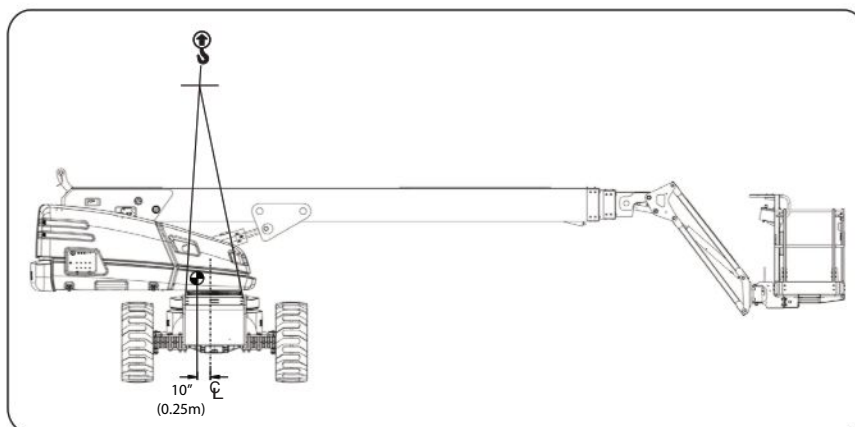
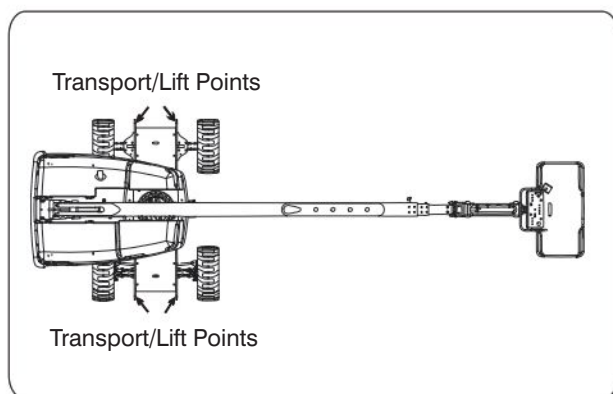
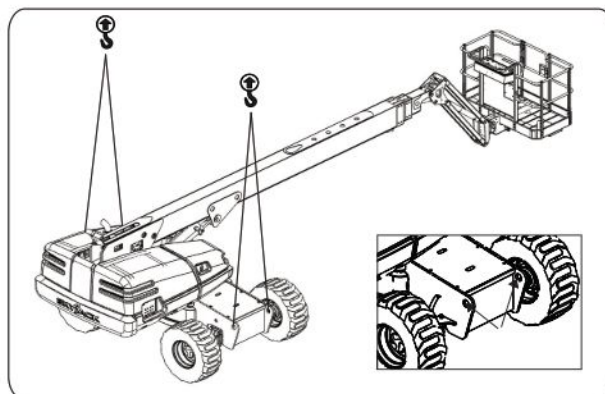

Figure 3-8. Center of Gravity
Figure 3-9. Overhead View Lifting Points
Figure 3-10. Lifting Points
1. Rotate the boom and position the MEWP as shown in Figure 3-8 and Figure 3-9.
When lifting the MEWP, lifting devices must be attached to designated lift points only (refer to Figure 3-9 and Figure 3-10).
4. Properly adjust rigging to ensure MEWP remains level during lifting. See Center of gravity location (Figure 3-8).